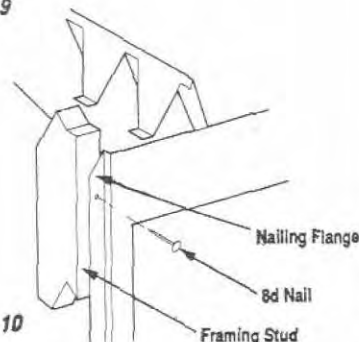

Figure 10
**Step 5.** Fireplace should be secured to side framing members using nailing flanges. Use 8d nails (Figure 10).
**Step 6.** Attach the chimney collar enclosure kit, Model CCEK, around chimney collar with the screws provided (Figure 10).